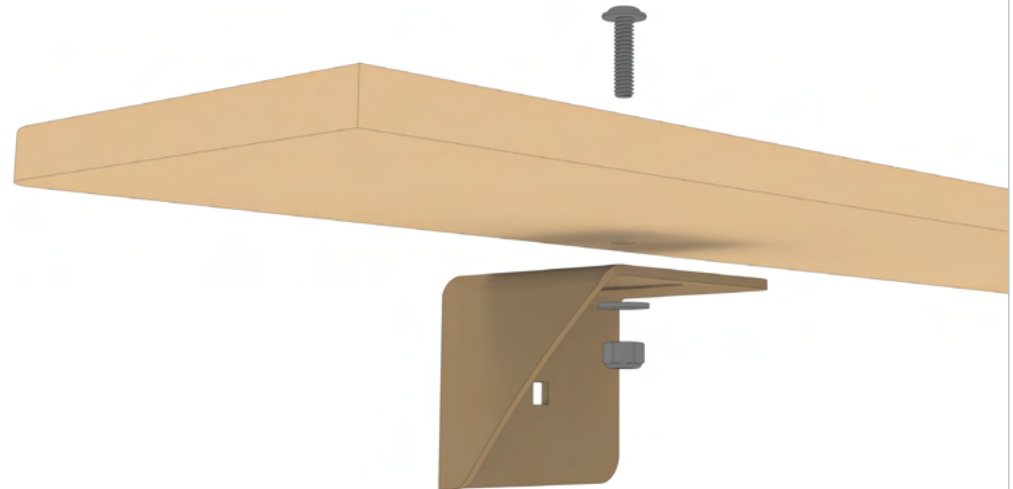

FIG 70
**5.4 Attach Wing Support Brackets to Wing Flare:** Loosely attach **Wing Support Brackets** in the orientation as shown to **Wing Flares** using (1ea) 1/4-20 x 1 Flanged Button Head Screws, Flat Washers and Nylon Locknuts (FIG 70).